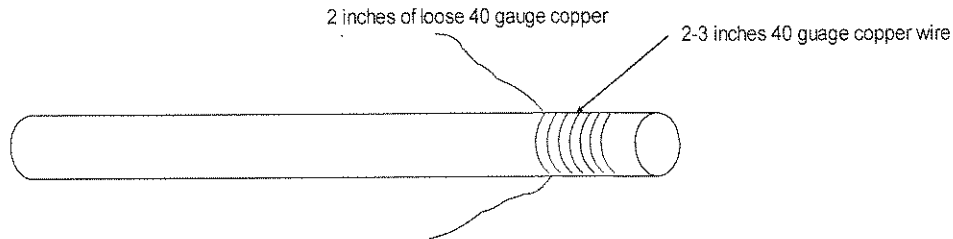

Figure 1: Initial stage of resistance thermometer construction
- b) Carefully wrap the 40 gauge copper wire into a 2 – 3 inch coil around one end of the thin glass tube. Make sure to leave at least two inches of loose wire at each end of the copper wire as shown in Figure 1.